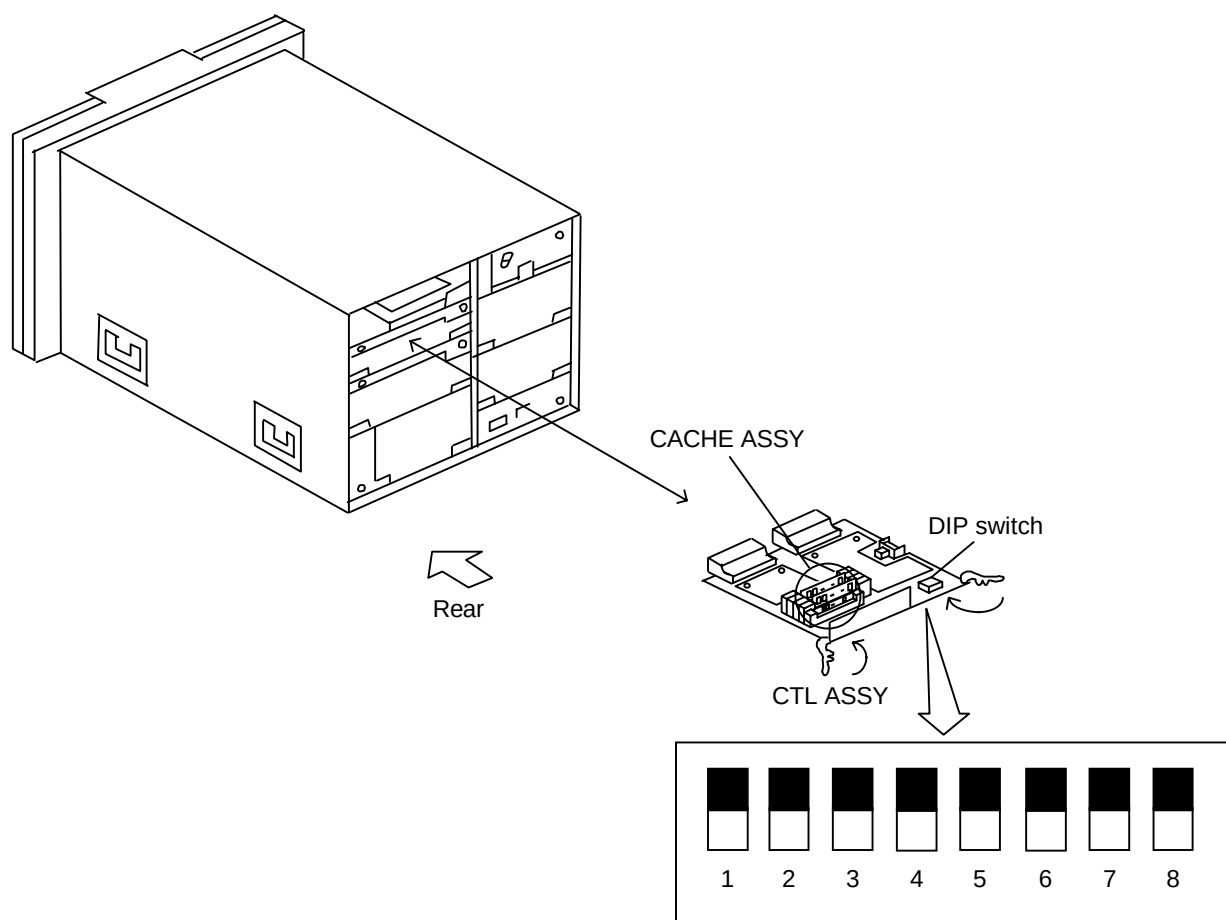

Figure 2.6.1 Installing the CTL ASSY
- (3) Remove rear cover 1 and 2.
- (4) Install a CACHE ASSY in the additional CTL ASSY. (Mount a CACHE ASSY of the same capacity in the same corresponding slot of the optional CTL ASSY as those of the already installed CTL ASSY respectively as shown on RH-OPTION0180.)
- (5) Insert the CTL ASSY in a predetermined position with the right and left levers opened. Push the right and left levers in the arrow-marked erection (→) at the same time. (See Figure 2.6.1.)